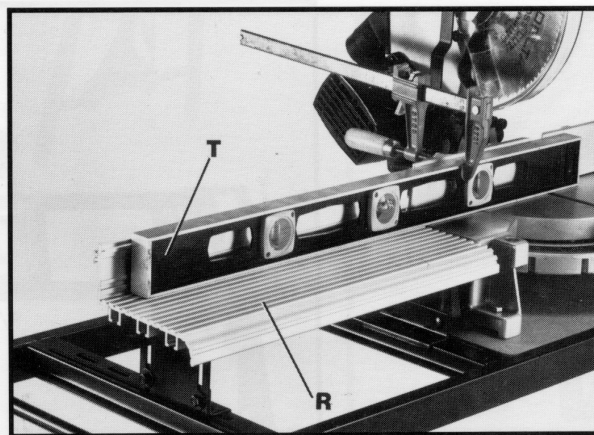

Fig. 15
12. Align the table extension assembly (R) Fig. 15, to the saw table and fence by clamping a level (T) Fig. 15, or suitable straight edge to the saw table and fence, as shown.